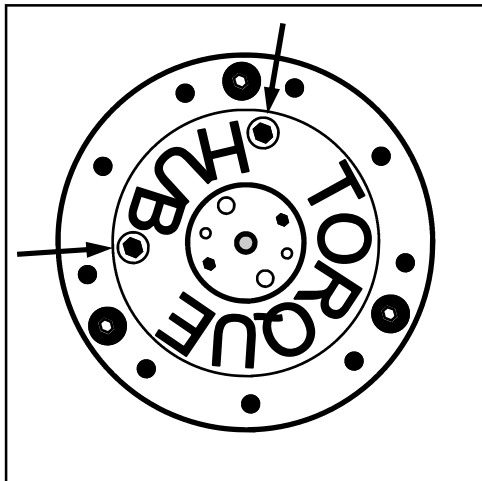

FIG 8.3
**OIL LEVEL** - Each Torque Hub® should maintain an oil level of half full at all times. Less than that would limit lubrication, and over half full could cause overheating and damage. To check oil level, position Torque Hub® so one of the face plugs is positioned at 12 O'clock (fig. 8.3). The other plug will be either at 9 O'clock or 3 O'clock. Remove the lower plug: if no oil comes out, oil level is too low. Check Torque Hub® oil level daily.